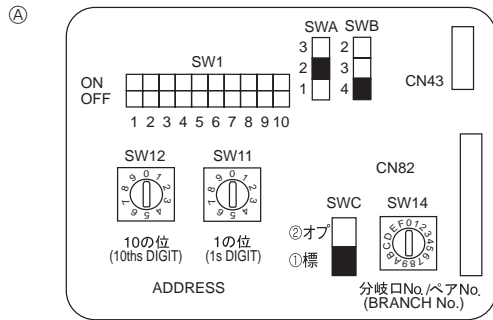

Fig. 4-4
4.5. Setting addresses (Fig. 4-4)
4.6. Switch setting for high ceiling or at the time of changing the number of air outlets (Fig. 4-4)
④	4 direction	2.7 m, 8.9 ft	3.2 m, 10.5 ft	4.5 m, 14.8 ft
③	3 direction	3.0 m, 9.8 ft	3.6 m, 11.8 ft	4.5 m, 14.8 ft
②	2 direction	3.3 m, 10.8 ft	4.0 m, 13.1 ft	4.5 m, 14.8 ft
4.7. Sensing room temperature with the built-in sensor in a remote controller (Fig.4-4)